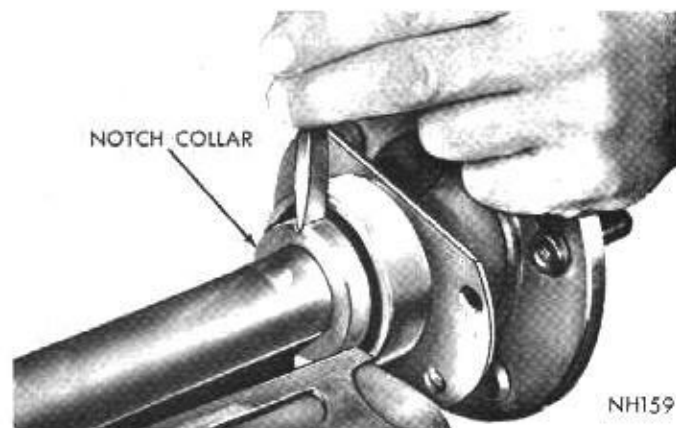
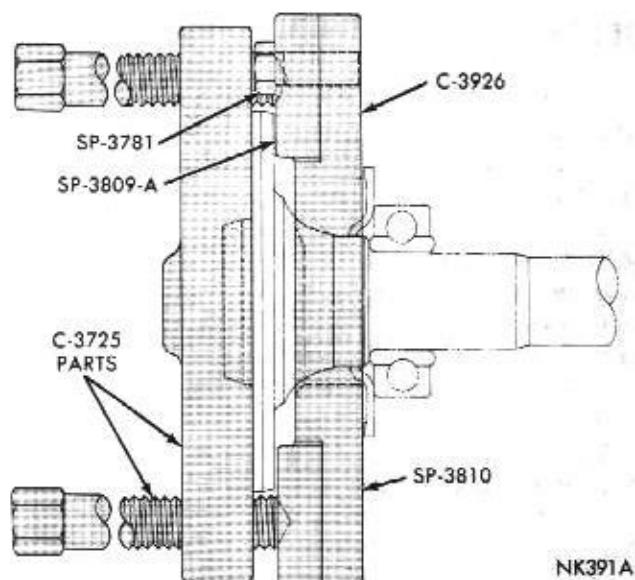

Fig. 3—Removing Axle Shaft Collar
Fig. 4—Removing Axle Shaft Bearing
(6) Position axle shaft bearing retaining collar on a heavy vise or anvil and using a chisel cut deep grooves into retaining collar at 90° intervals (Fig. 3). This will enlarge bore of collar and permit it to be driven off of axle shaft. The bearing can now be removed using tool C-3725 and C-3926 (Fig. 4).